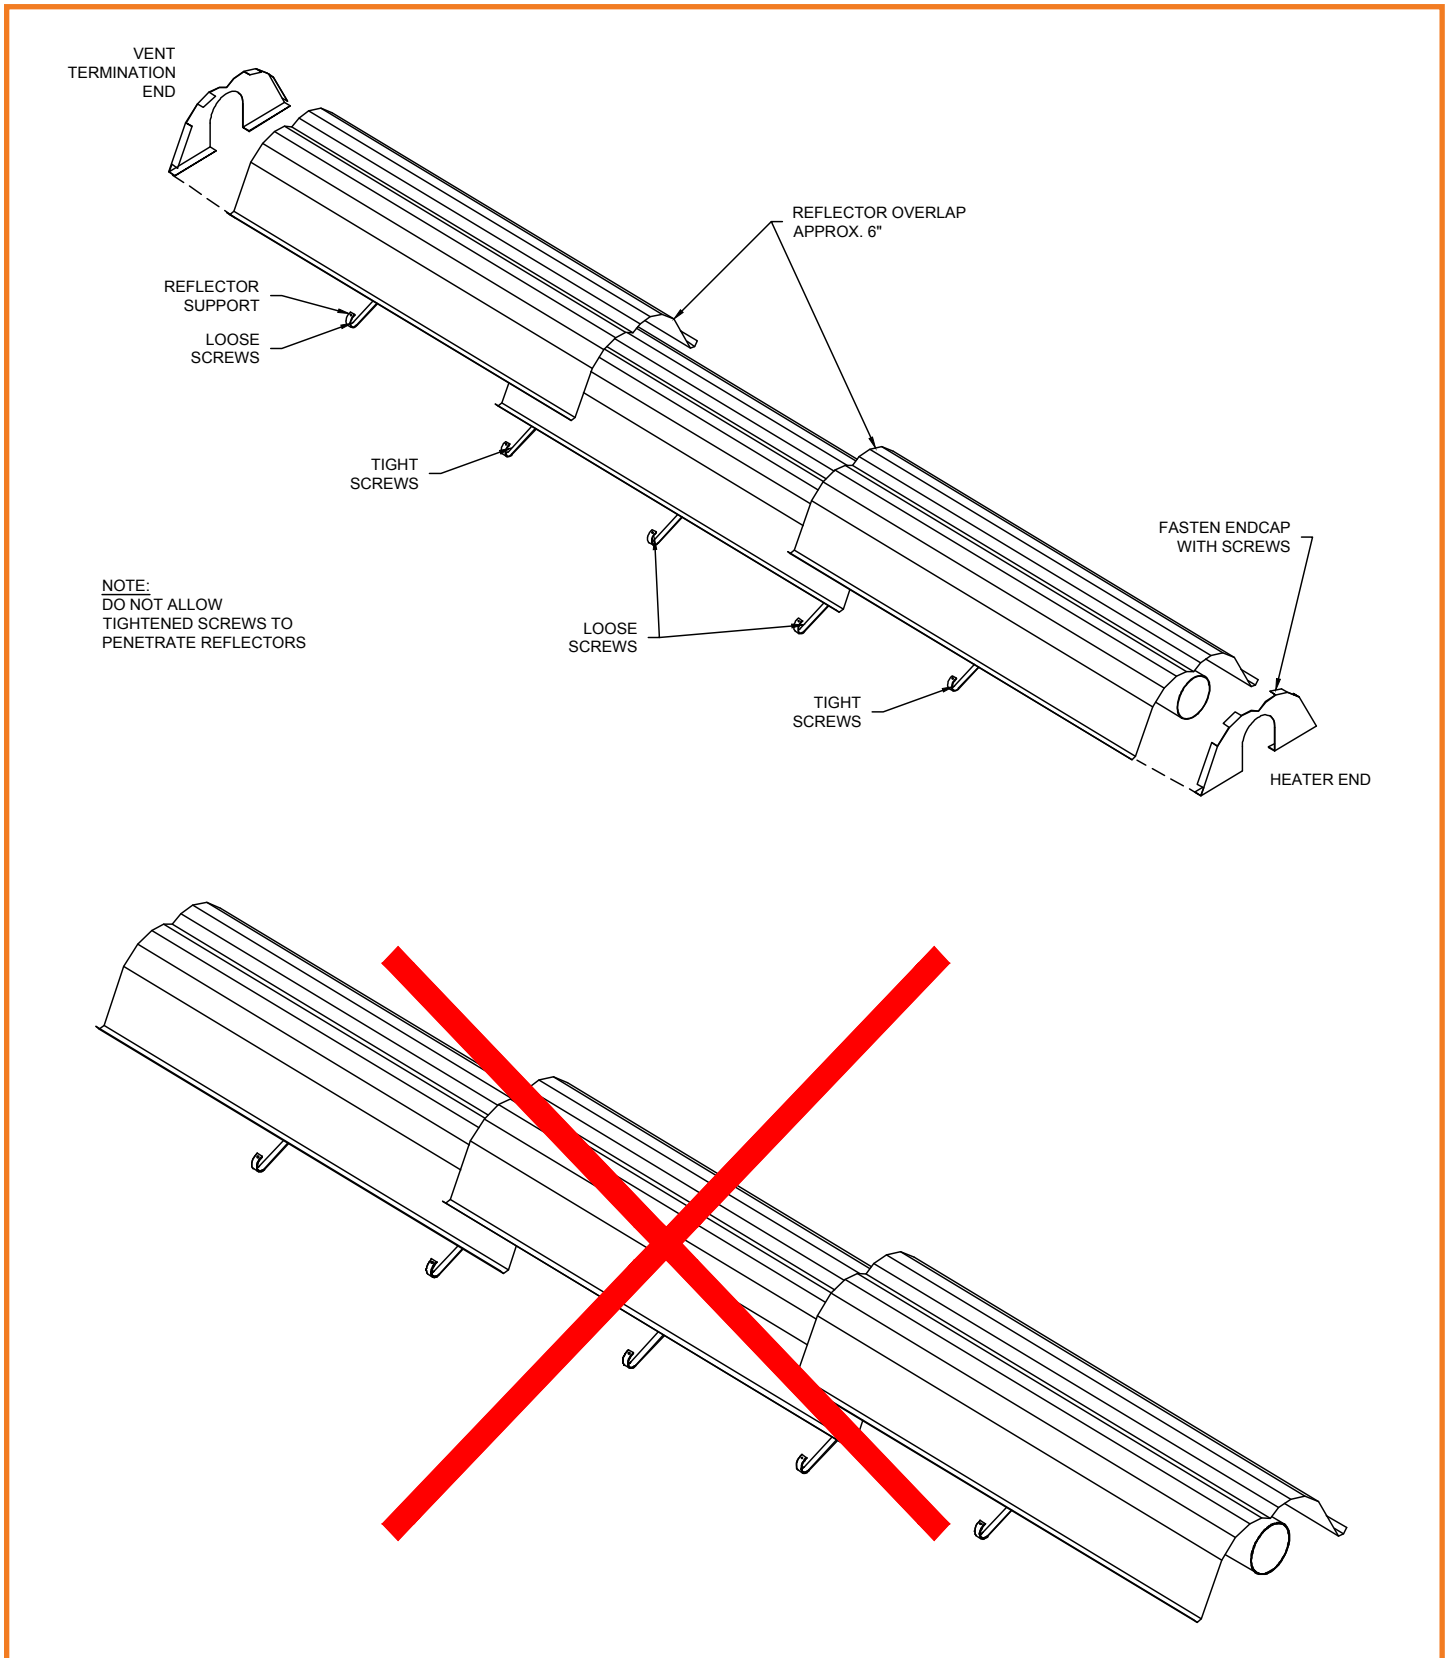

Figure 16: Reflector Support Bracket Installation
**Note:** Reflectors should overlap adjacent reflectors 4" to 6". Be sure not to tile reflector sections; that is, reflector sections must be either above both adjacent reflector sections, or below both adjacent reflector sections. (Refer to Figure 16).